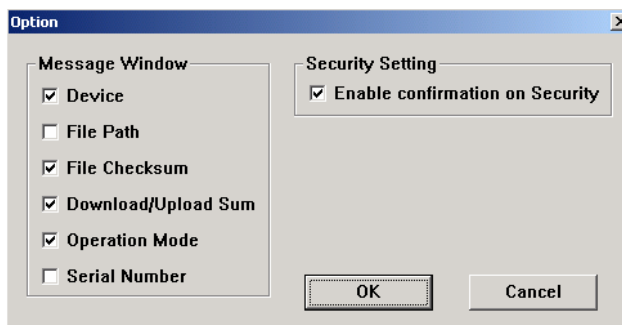

Figure 2-2 Setting Window
- Select [Setting] → [Option], User can see the setting window as Figure 2-2.